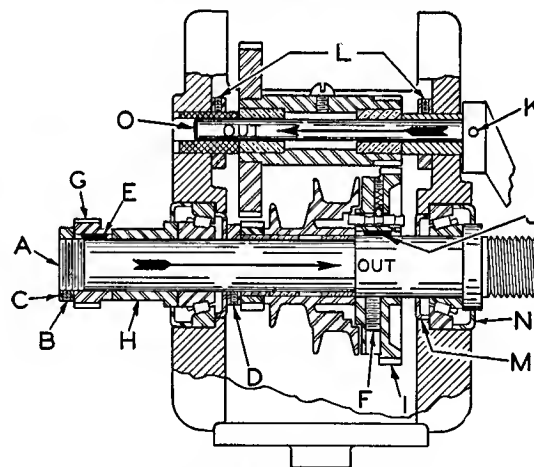

Fig. 5 Cross Section of Miller Head.
Run the miller between thirty minutes and one hour to warm up the spindle (a temperature rise of 50 degrees Fahr. increases the length of the spindle about .002 inch between bearings). Then loosen the set screw (B) on the thrust nut (C), at the extreme left end of the spindle (A), see Figure 5, and turn it up to a point where no play can be detected in the spindle. Advance this thrust nut $\frac{1}{2}$ turn (equal to one tooth of the spindle gear) past that point in order to provide the correct preload. Tighten the set screw. It is necessary to remove change gear guard on rear of miller to get at the adjusting collar. This is easily accomplished after loosening the hex screws.